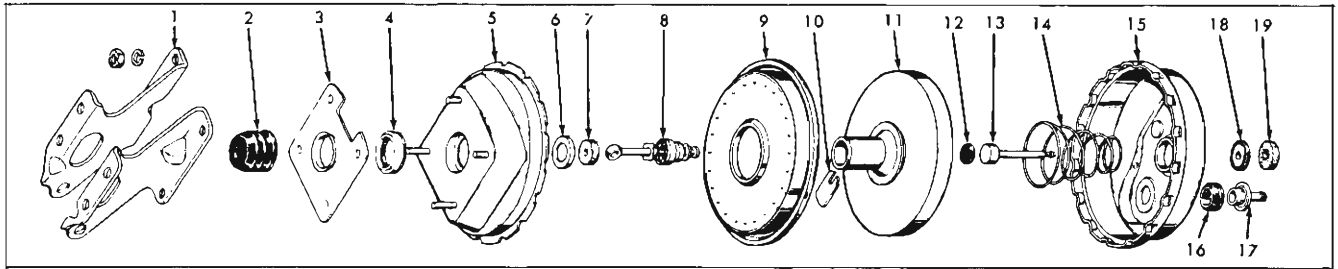

Fig. 18—Component Exploded View
2. Remove main cylinder filter, piston seal assembly and main cylinder push rod from front shell (fig. 18)—pulling the push rod from front shell will also remove the filter and seal assembly.